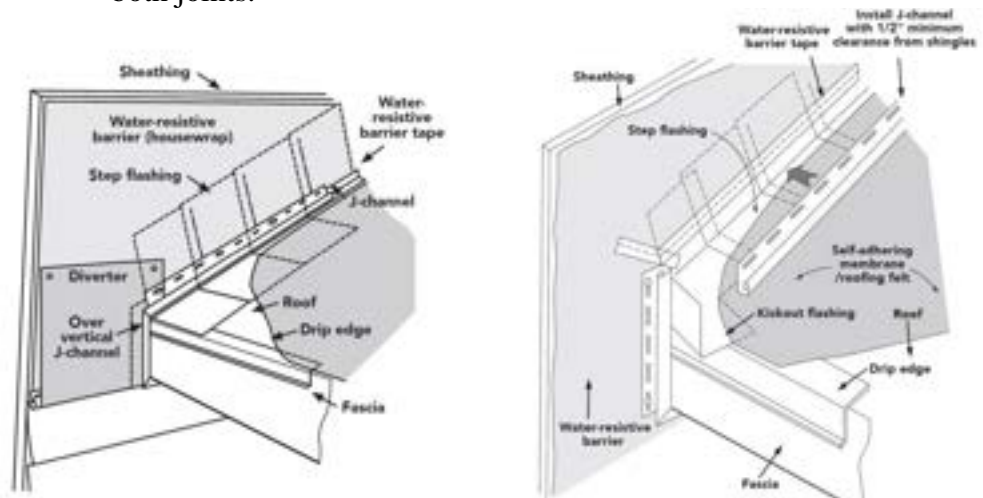

Figure 11-12. F-Channel Over Roof.
11. Where a section of roof meets a wall, install the J-channel ½” above the shingles with the nailing flange behind any housewrap, if present (see Figure 11-12). Use a strip of ½” thick OSB about 2-3’ long as a spacer to ensure a uniform gap. Tape the top edge of the J-channel, covering the nail slots, using flashing tape. Then tape the top edge of the step flashing, covering the top edge of the J-channel tape shingle-style.